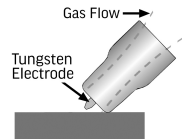
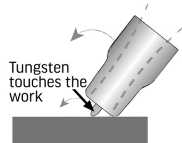

Figure 37.
Figure 38.
4. With a small movement rotate the Gas Cup forward so that the Tungsten Electrode touches the workpiece (Fig. 37) and (Fig. 38).